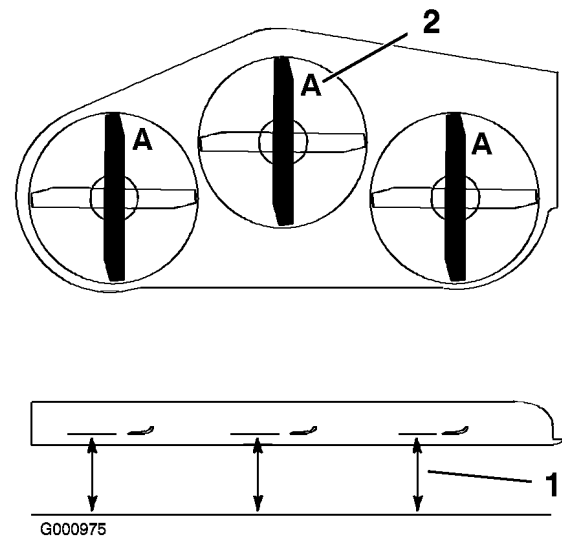

Figure 82
3. Rotate the blades until the ends face forward and backward (Figure 82). Measure from a level surface to the cutting edge, position A, of the blades (Figure 82). Note this dimension.